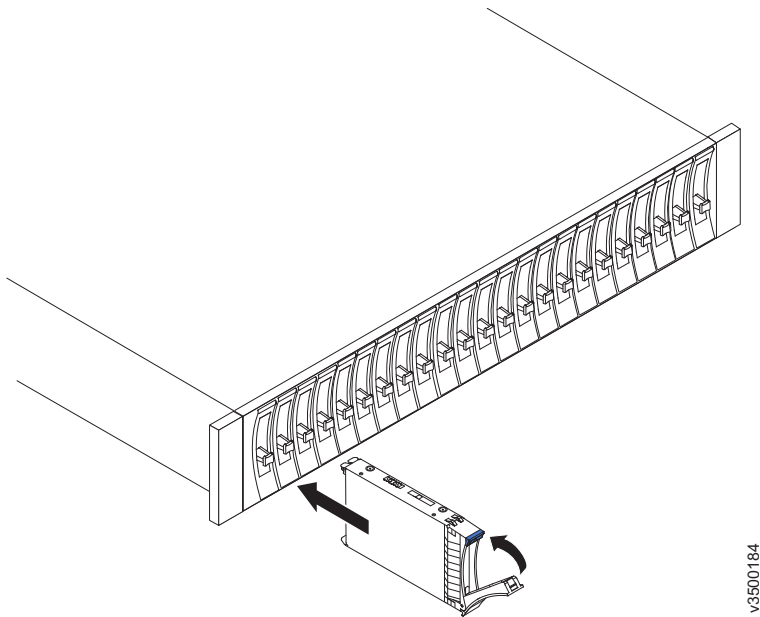

Figure 31. Installing and locking a 2.5-inch drive into its slot
13. Align the drive assembly with the guide rails in the bay (see Figure 31 on page 162).